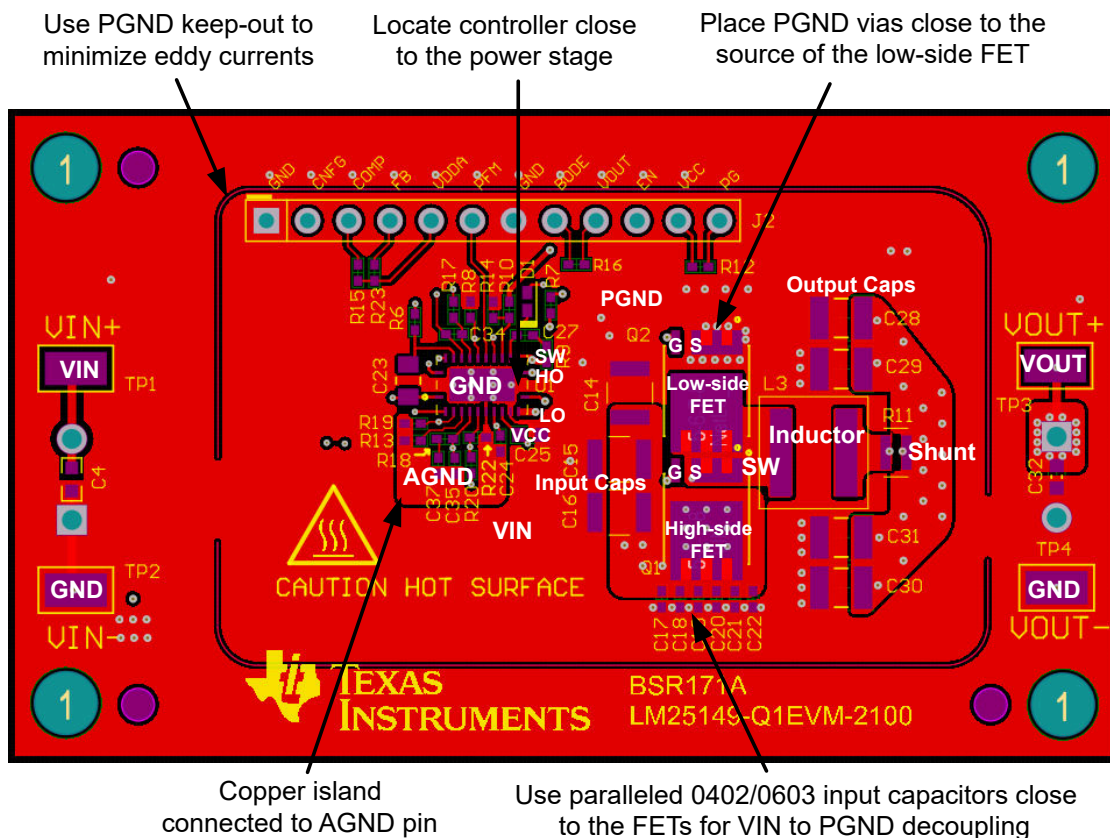

Figure 9-36. PCB Top Layer – High Density, Single-sided Design
Figure 9-36 shows a single-sided layout of a synchronous buck regulator with discrete power MOSFETs, Q1 and Q2, in SON 5-mm × 6-mm case size. The power stage is surrounded by a GND pad geometry to connect an EMI shield if needed. The design uses layer 2 of the PCB as a power-loop return path directly underneath the top layer to create a low-area switching power loop of approximately 2 mm². This loop area, and hence parasitic inductance, must be as small as possible to minimize EMI as well as switch-node voltage overshoot and ringing.
- Make the ground connections to the LM25148 as shown in Figure 9-36. Create a power ground directly connected to all high-power components and an analog ground plane for sensitive analog components. The analog ground plane for AGND and power ground plane for PGND must be connected at a single point directly under the IC – at the die attach pad (DAP).